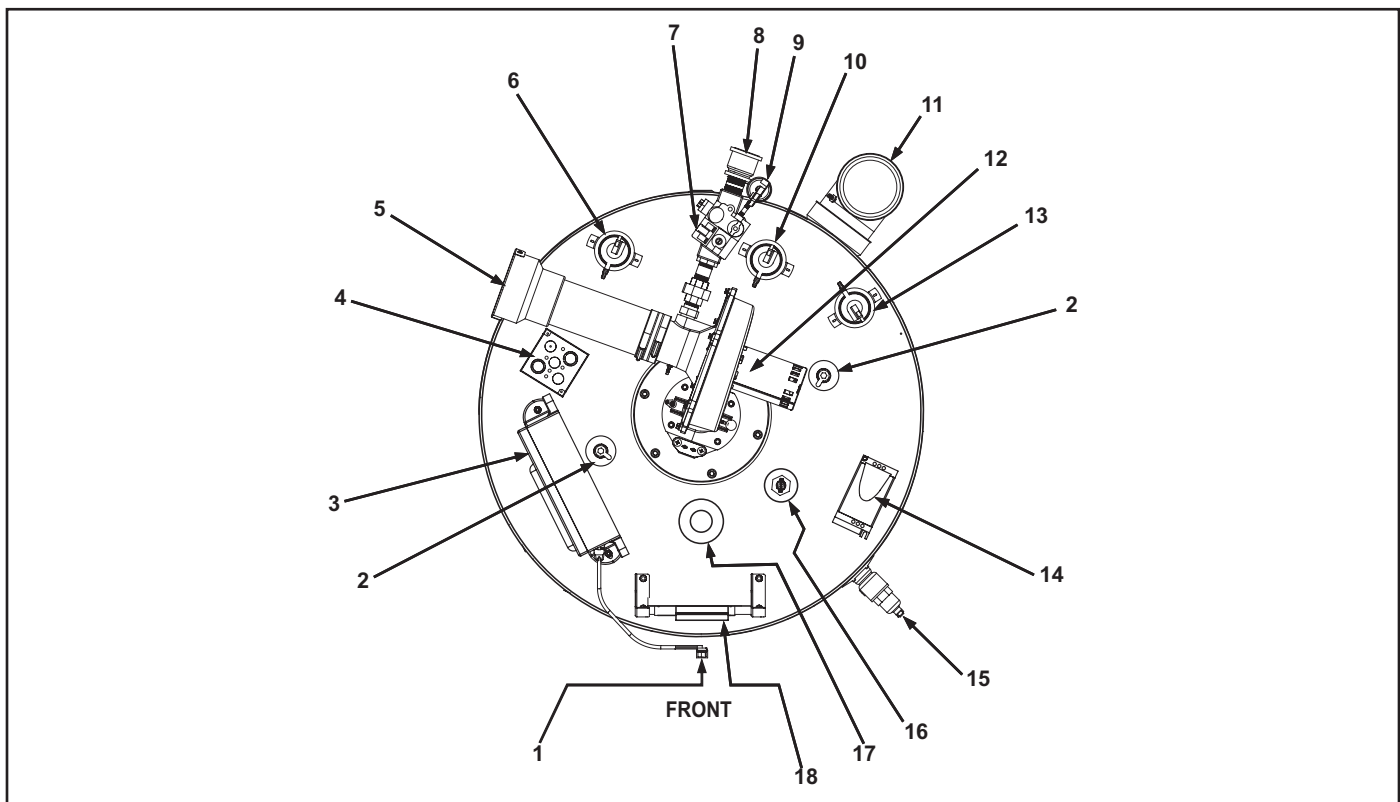

Figure 3
2. CCB enclosure - see Figure 3 on page 13 for description.
6. Low Gas Pressure switch, see description under Figure 3 on page 8. See Table 4 and the Gas Pressure Requirements on page 13.
9. VFD (variable frequency drive) blower motor drive - see Figure 3 on page 8 for description.